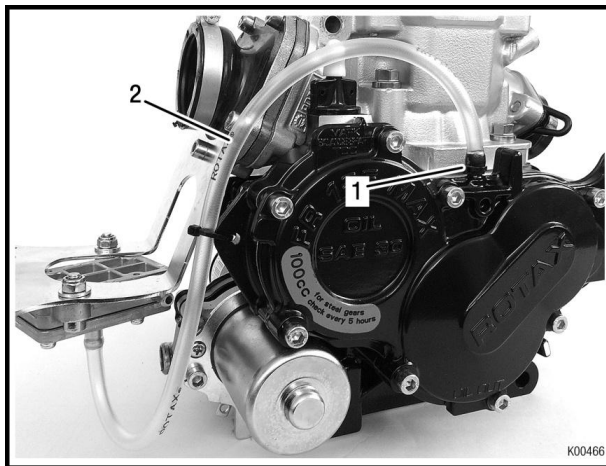

Fig. 5
For engines without exhaust slide, a direct connection (with vacuum hose) between the gearbox and the fuel pump must be installed, see Fig. 5
- ➔ Secure the vacuum line (pos. 2, Fig. 5) on the gearbox housing to prevent disengagement using a tie wrap (pos. 1).